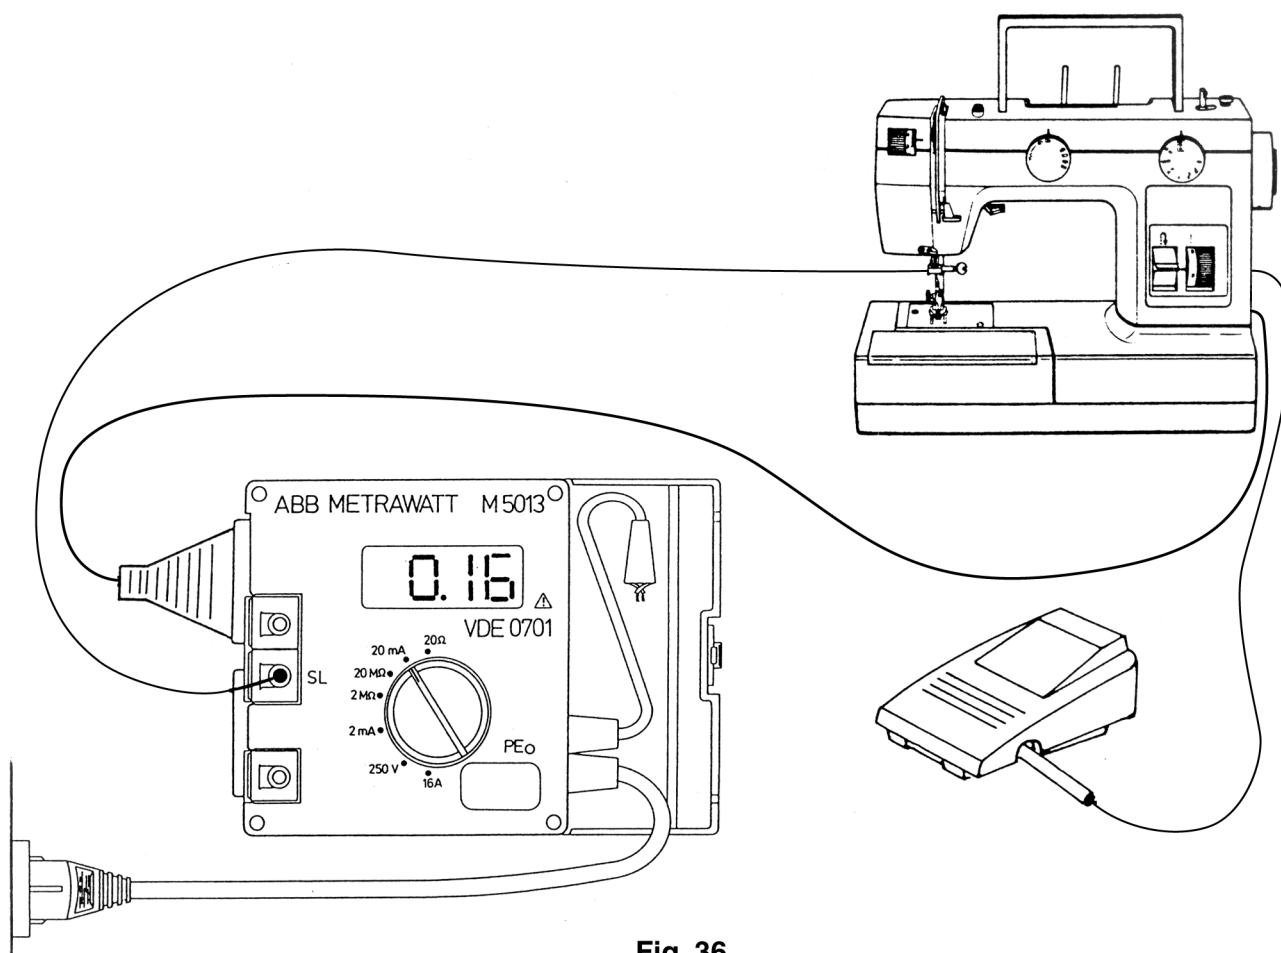

Fig. 36
- Set testing range switch at **"20 mA"** (fig. 36).